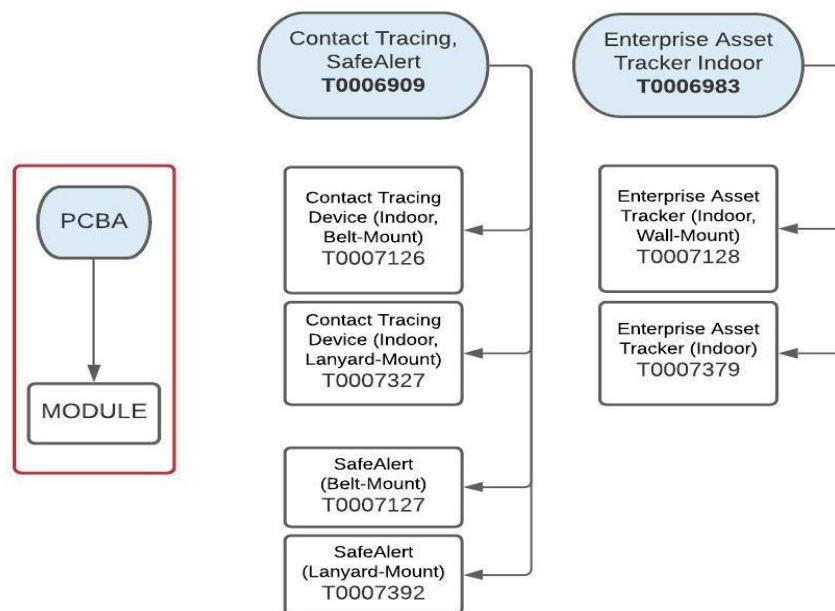
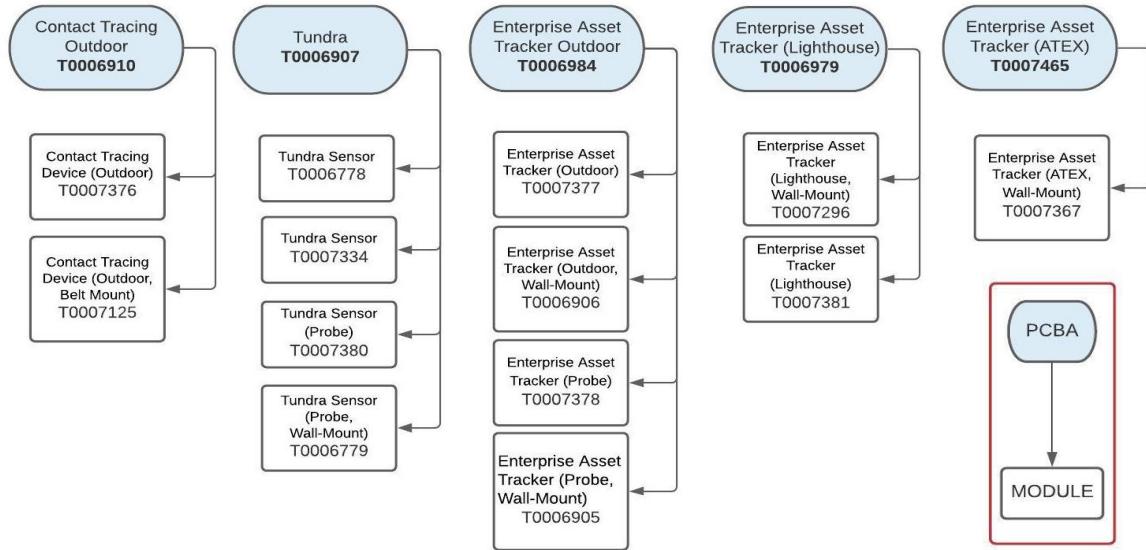

Figure 1-2: AA-Cell Gen2 Sensor Variant Groupings by PCBA
Figure 1-3: C-Cell Gen2 Sensor Variant Groupings by PCBA
3. By PCBA (see Figure 1-2, Figure 1-3, and Table 1-1).
Figure 1-2 shows the HW/Mechanical groupings of the AA-cell variants and Figure 1-3 shows the groupings of the C-Cell Devices. In the figures, each grouping shares common PCBA HW (and therefore PCBA-level T-code). The module-level T-code is what appears on the label on the exterior of the device. Each different combination of mechanical enclosure, mounting option, and function is assigned a different module-level product code, as shown in the figures.